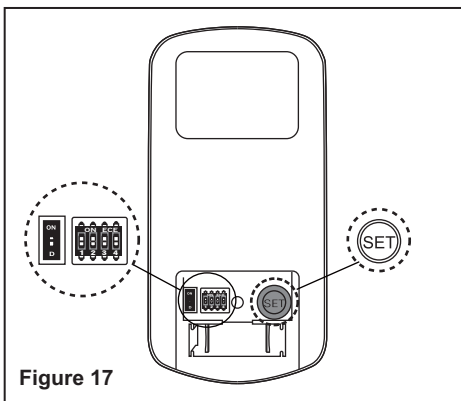

Figure 17
⚙ button: Controls light. Switch the “D” and “ON” dip switch on the back of transmitter to decide the light in “ON/OFF” or “Dimmable” condition. (Fig. 17)
a) Select desired frequency from the transmitter. The dip switches can be set to 16 different combinations. (Fig. 17)
b) From the back of the transmitter, with the fan’s power off, restore power to the fan. Press and hold “SET” button for about 5 seconds and release. If optional light kit is installed, the light kit will flash twice and the signal light on the hand held transmitter will come on when the button is pressed. The fan has completed the pairing process with the remote control and is ready for use. (Fig. 17)